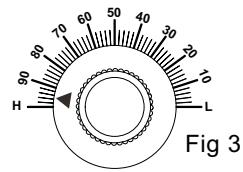

Fig 3
- 4. Turn the knob clockwise from H position to 90% position about 1/2 circle (95% position) until LED indicator shut off (Figure 3). Then, Initial calibration is complete. After that, please continue to next step "SENSITIVITY ADJUSTMENT".